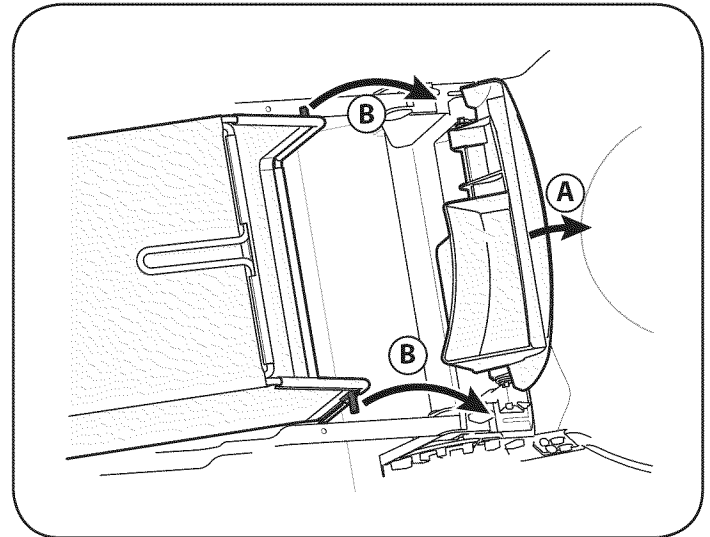

Figure 8
- A. Lift rear discharge door. See Figure 8.
- B. Place grass catcher into the slots in the handle brackets as shown in Figure 8. Let go of discharge door so that it rests on the grass catcher.